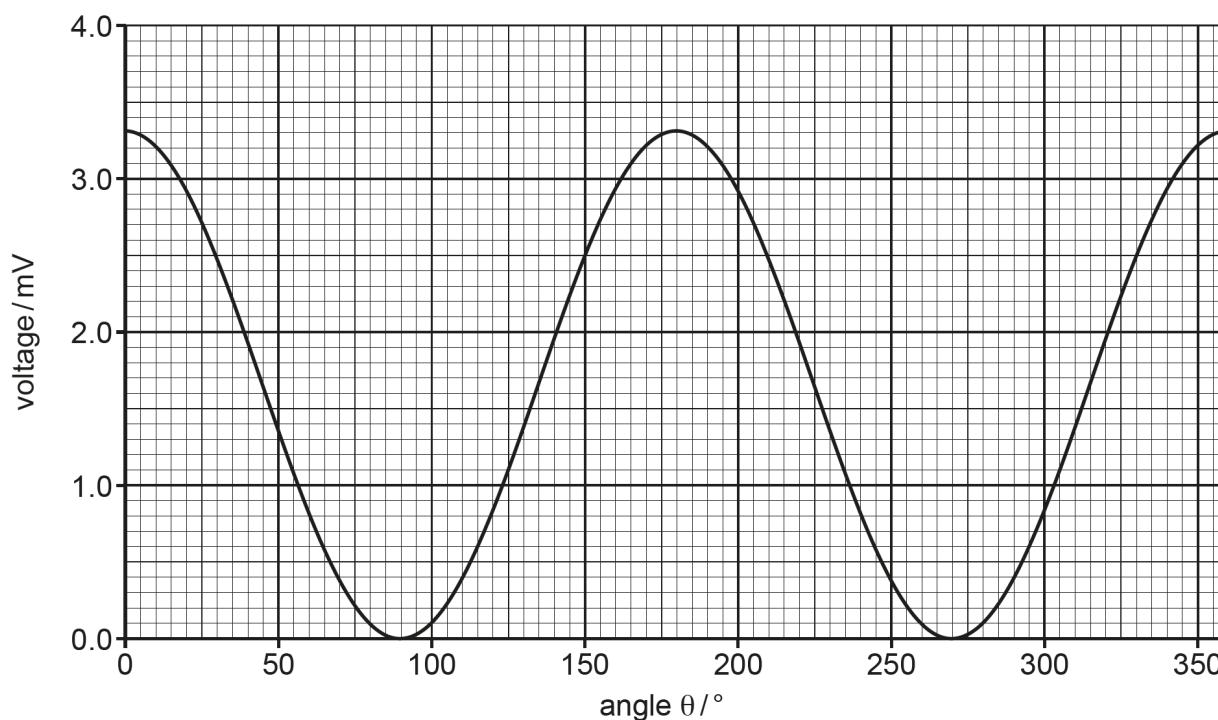

Fig. 1.2
- (ii) The results from the investigation are plotted on the graph shown in **Fig. 1.2**. Use data points from the graph below (excluding voltage = 0) to test whether the investigation shows that